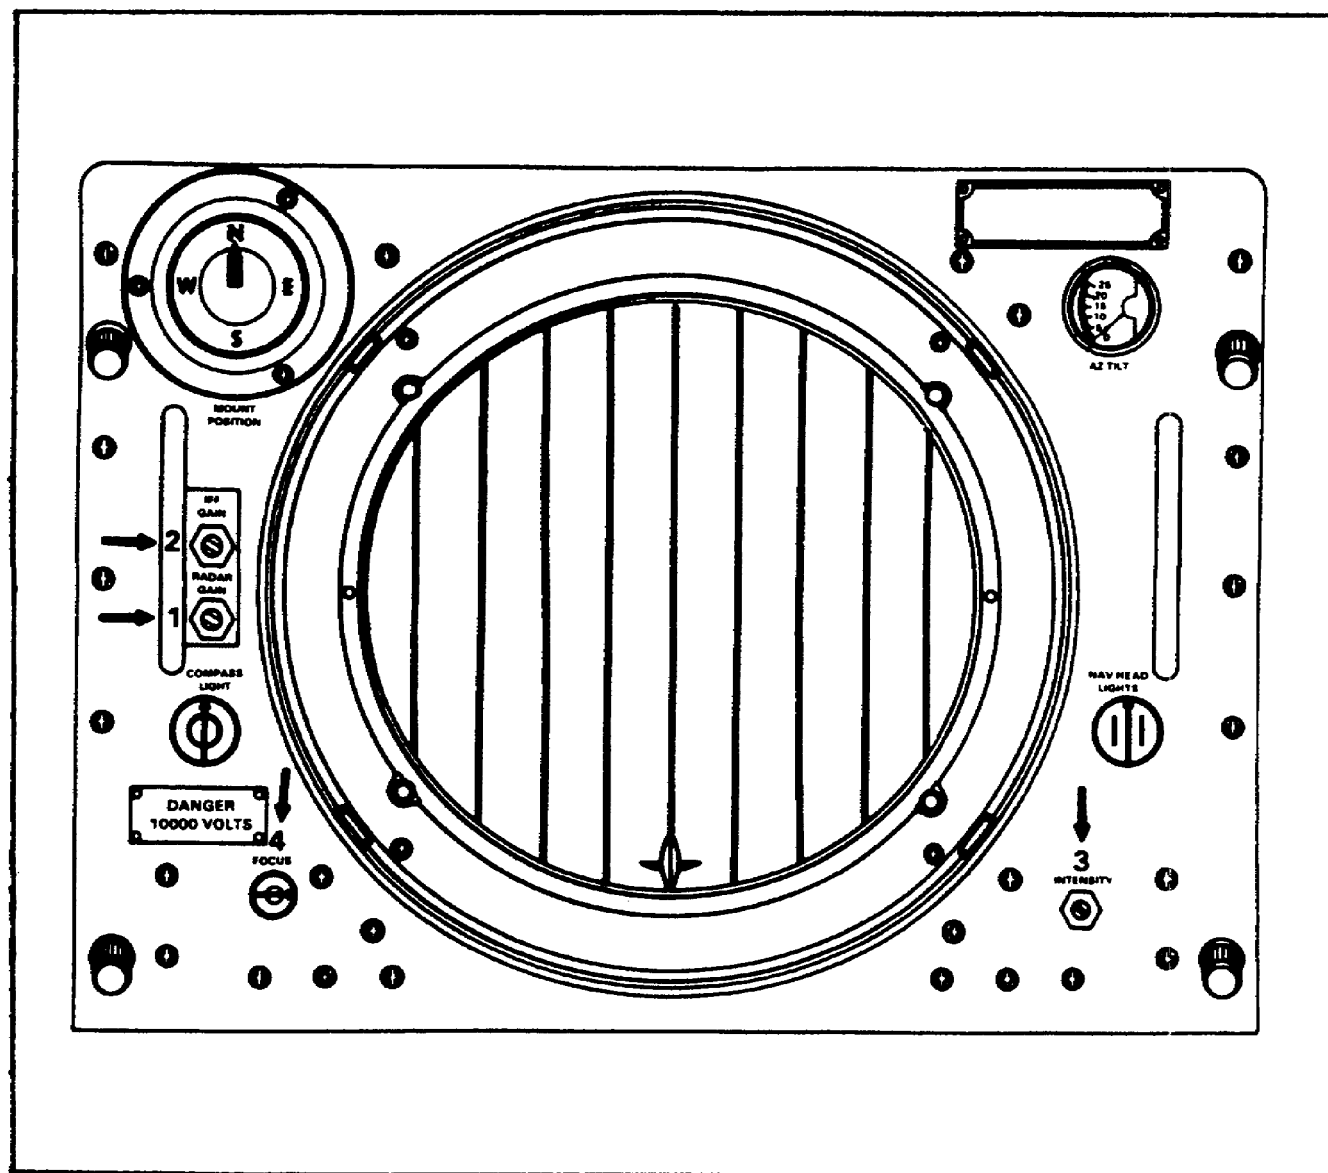

Figure 5. Indicator azimuth-elevation range IP-800/FPN-40.
d. Locate the following controls on indicator azimuth-elevation range IP-800/FPN-40. (See Figure 5.)
- (1) Radar gain control R-1405.
- (2) IFF gain control R-1406.
- (3) Intensity control R-2404.
- (4) Focus control R-2401.
- _____ FOCUS control (Figure 5)